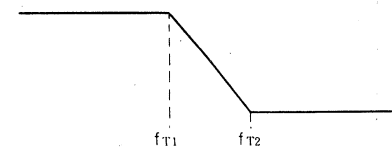

Fig. 6 Anti-saturation Network
b) Anti-saturation network (Refer to Fig. 6)